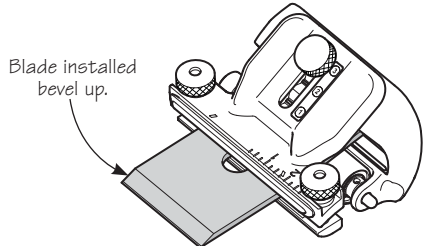

Figure 11: Configuration for honing back bevels.
To create back-bevel angles of 10° or higher, simply set the blade carrier in the ③ (green) back-bevel configuration and the blade registration stop on the ③ (green) scale. Install the blade with the primary bevel up (as shown in **Figure 11**), and the micro-bevel knob in the 12 o'clock position.